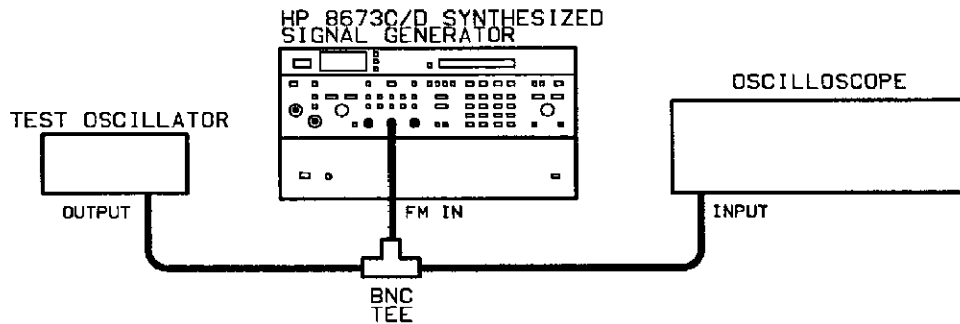

Figure 8-31. FM Amplifier Check Initial Test Setup
23. Connect the test equipment as shown in figure 8-31.